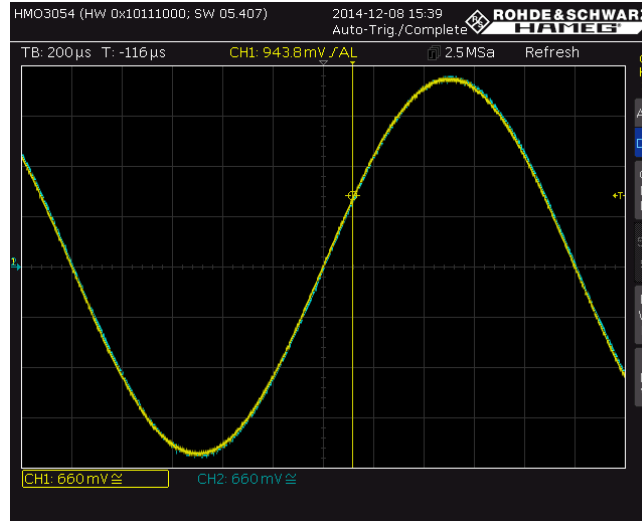

Fig. 2-38: Superimposed display of CH1 and CH2.
- Use the *TIME/DIV* rotary knob to change the y deflection until a complete signal oscillation is visible. Use the horizontal position rotary knob to shift the signal until it passes through the zero crossing (Fig. 2-38).
- As described in 1.1, the capacitor represents an infinitely high resistance at low frequencies, so that the entire voltage is received at the capacitor ( $U_{in}=U_{out}$ ). As is to be expected, the output voltage has no phase response (Fig. 2-38).